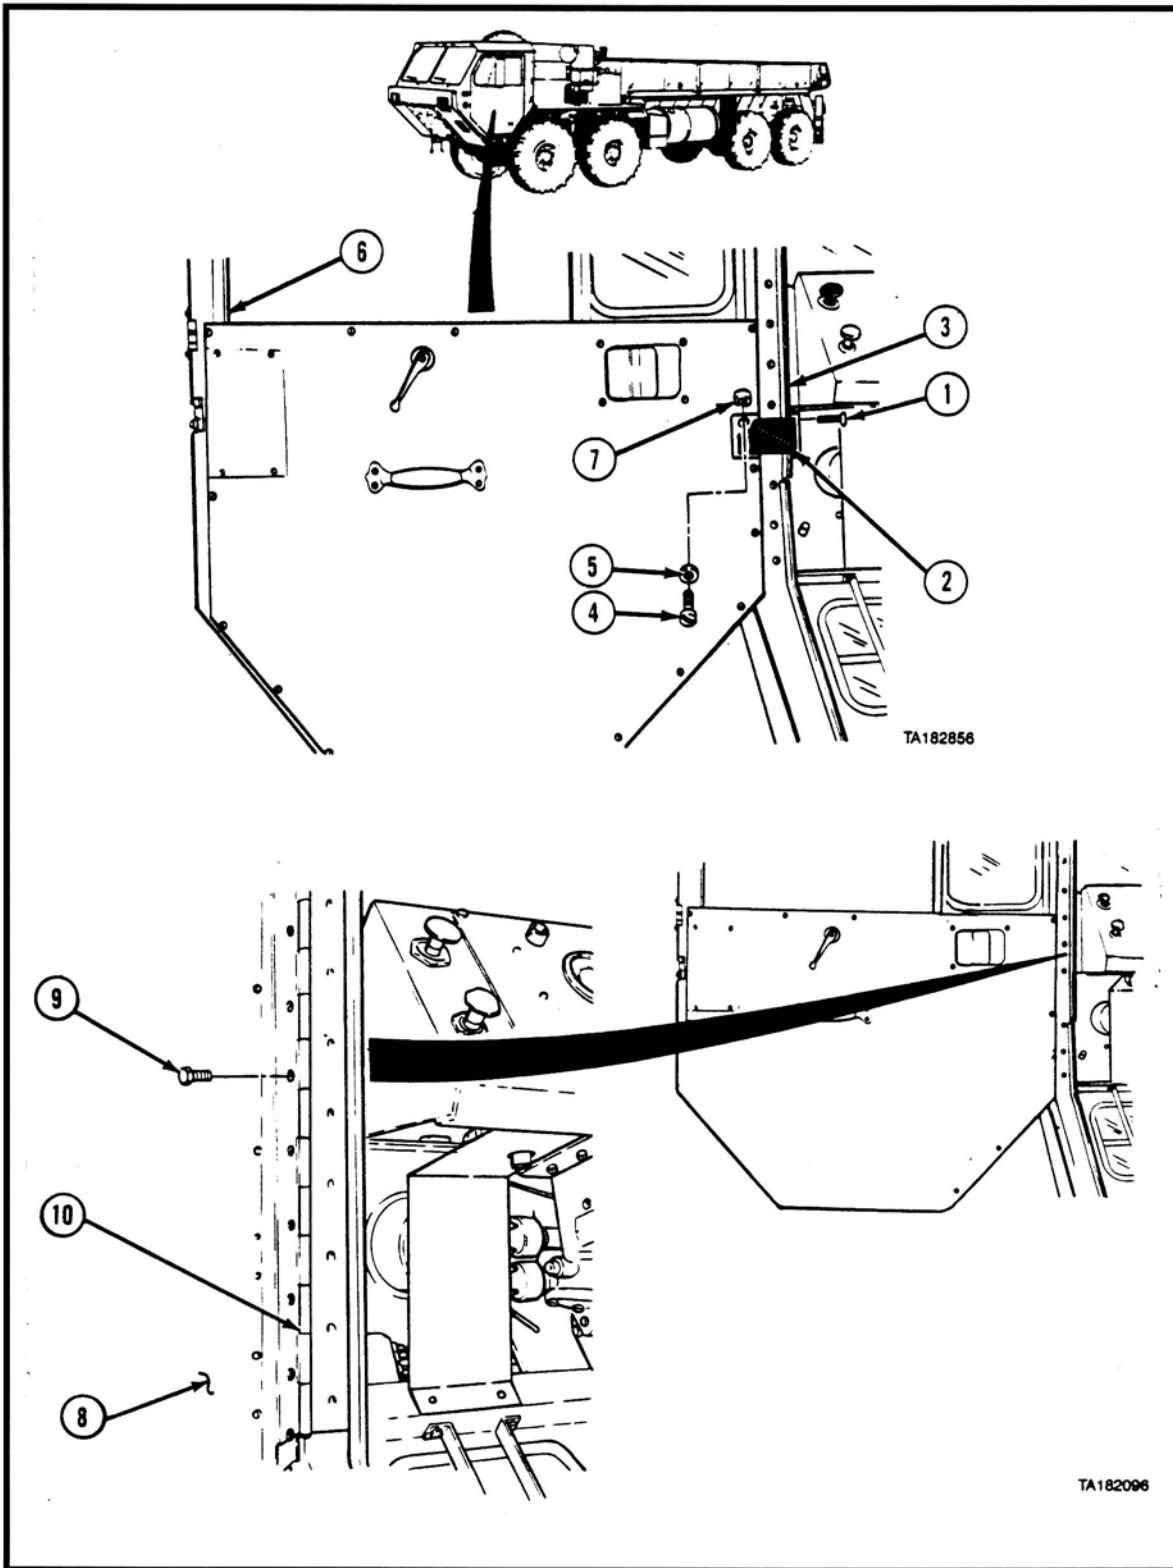

Figure 3. HEMTT Door removal.
- b. Remove two screws (Item 4 in Figure 3) two washers (5), and the spacer (7) securing the Doorstrap (2) to the Door Frame (6). It is not necessary to remove the two screws (1) that secure the Doorstrap (2) to the cab.
- c. While one person holds the door, have another person remove the ten bolts (9) from the hinge point on the vehicle.
- d. Remove the Door (8) and the Door Hinge (10) from the vehicle.